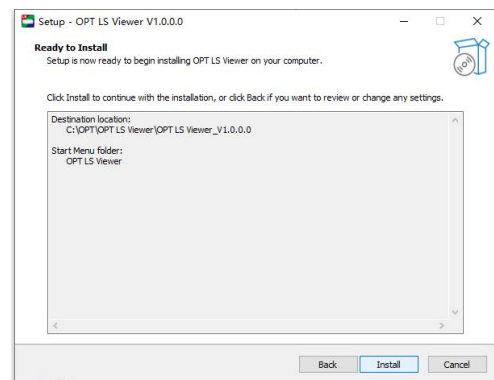

Figure 1.1.6 Preparing the installation screen
5、Click "Next" to enter the installation preparation interface, click "Install" to continue installing the software, as shown in Figure 1.1.6.